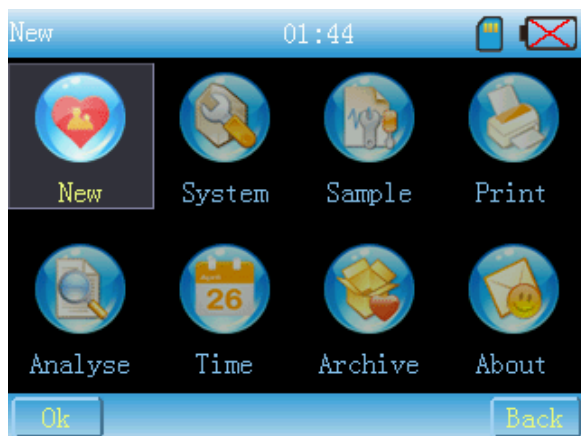

Fig. 13-2-4
- 4  Click this icon or the menu key to enter the main menu, as Fig.13-2-4.